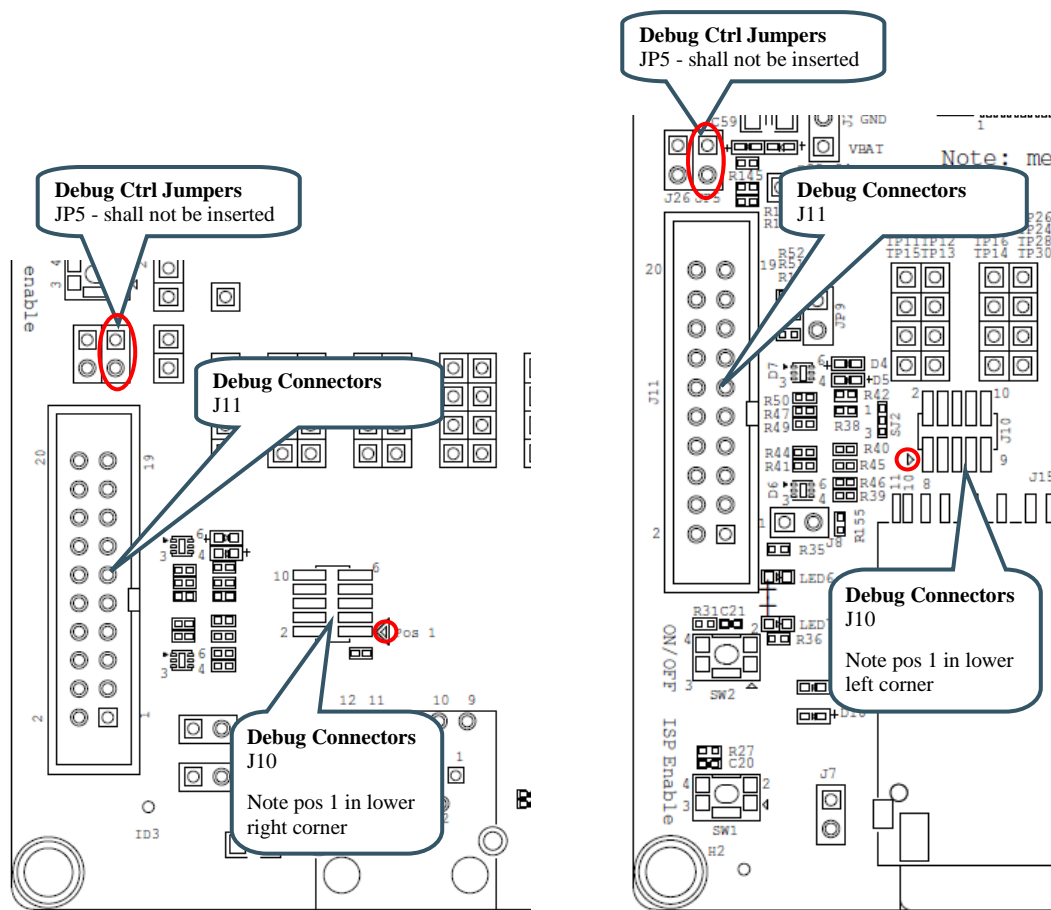

Figure 15 – Debug Interfaces on rev A and rev B1 iMX OEM Carrier board, respectively
- J10 – this is a Cortex Debug connector. It is a 2x5 pos, 50 mil pitch connector without a shroud. Be careful when inserting the debug probe cable. Position 1 is specifically marked on the PCB silkscreen. It is located in the lower right corner, see Figure 15 below. The connector supports both the SWD and JTAG interfaces.